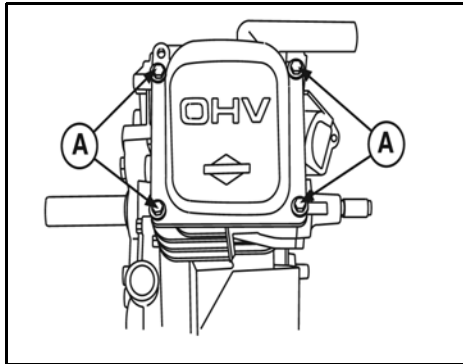

Figure 1
1. Remove four screws (A, Figure 1 or 2) from rocker cover, then remove cover and gasket.